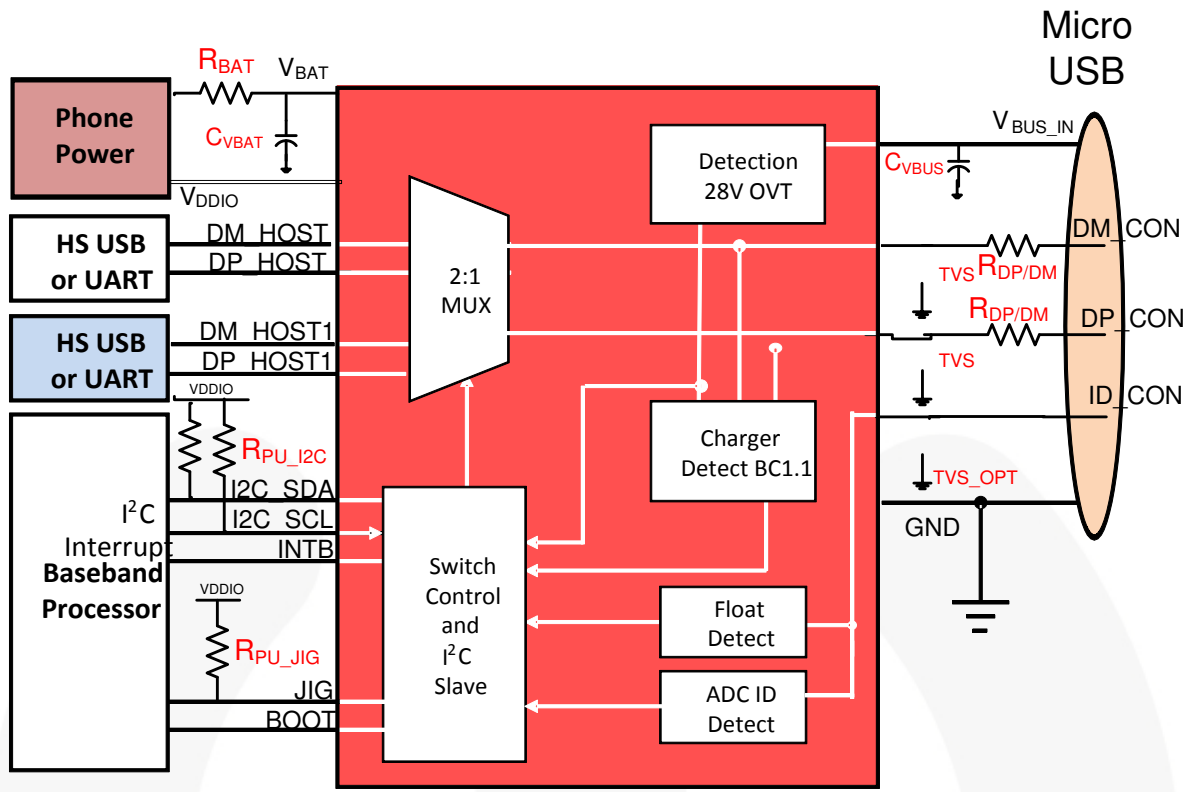

Figure 22. Reference Schematic
3. Add as large a decoupling capacitor as possible ($\geq 1\mu\text{F}$) between the V_{BAT} pin and GND to shunt any power supply noise away from the FSA88x. Also add decoupling capacitance at the PA (*see the reference application schematic in Figure 22 for recommended decoupling capacitor values*).